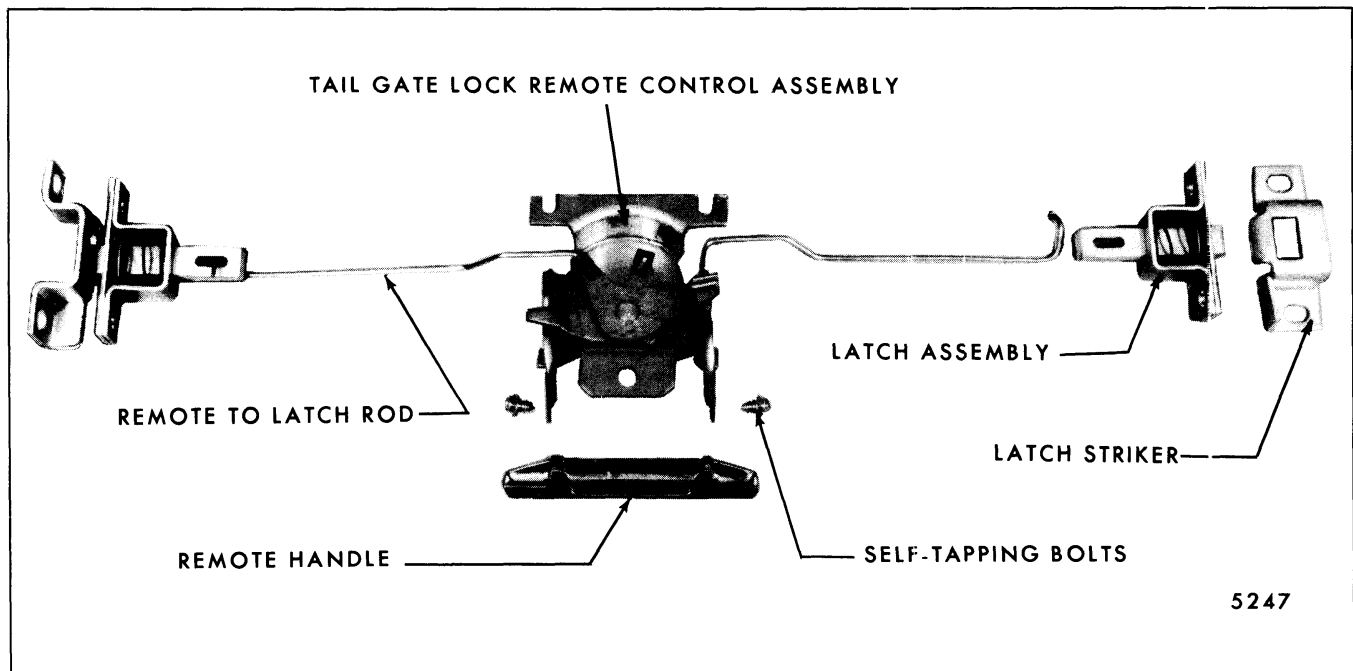

Fig. 7-79-Tail Gate Hardware Components
4. Remove remote control attaching bolts and withdraw assembly from tail gate. Refer to Figure 7-79 showing hardware components removed from tail gate.